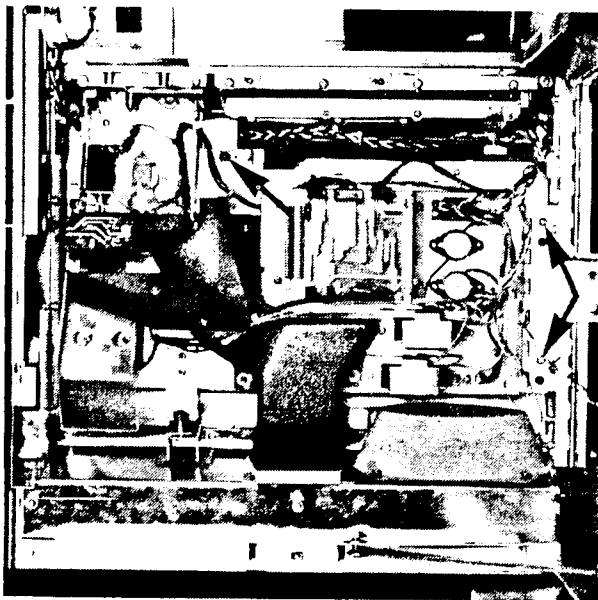

Figure 5-14
- 8) Adjust lower fluorescent panel vertically so that the panel fits on the stud properly. See Figure 5-14.
- 9) Adjust lower fluorescent panel in and out using stud until coin acceptor and coin head align. See Figure 5-14.